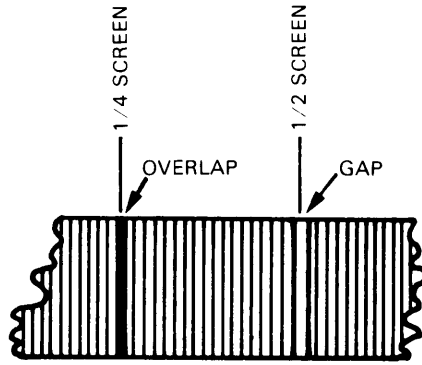
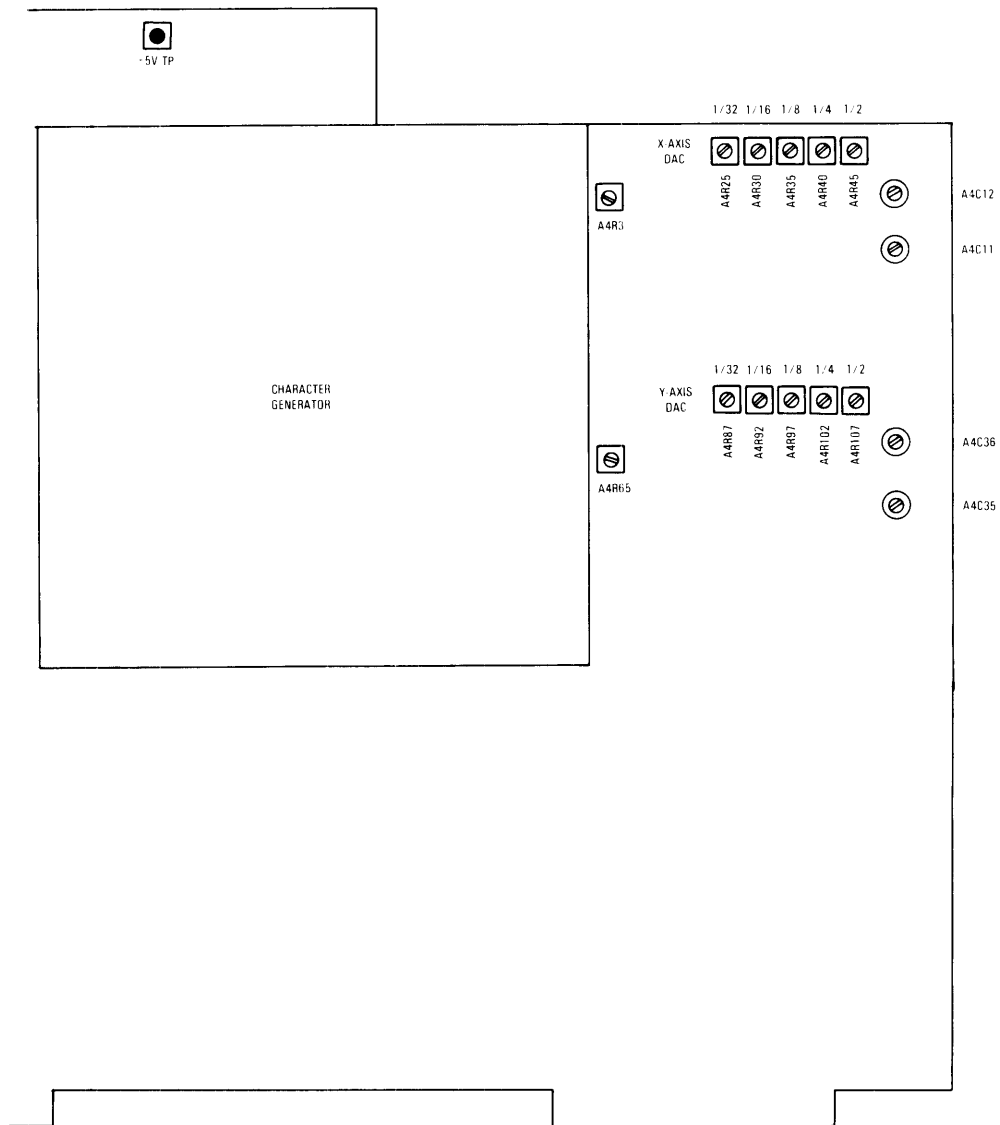
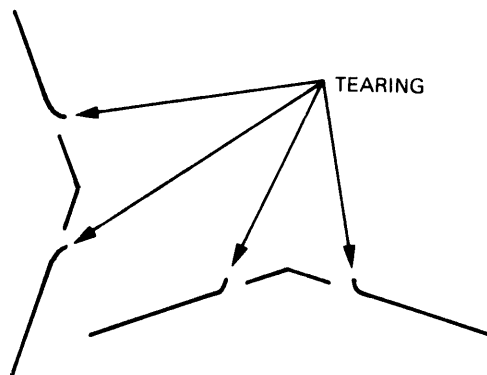

Figure 5-6. DAC Adjustment Indication on CRT
Figure 5-7. DAC Adjustment Locations on Display Board
*Figure 5-8. DAC Timing Adjustment CRT display*
- d. Adjust X-axis digital-to-analog converter (DAC) to minimize gaps or overlapping for each adjustment (figure 5-6). The adjustments (figure 5-7) interact and should be done in the following sequence.
- d. Adjust Y-axis digital-to-analog converter (DAC) to minimize gaps or overlapping for each adjustment (figure 5-6). The adjustments (figure 5-7) interact and should be done in the following sequence.
- c. The CRT will display six pointed vectors as shown in figure 5-8.
- d. Adjust the vectors for minimum distortion as shown in figure 5-8. Figure 5-9 shows undesired vector shapes. The adjustments (figure 5-7) interact and should be done in the following sequence.